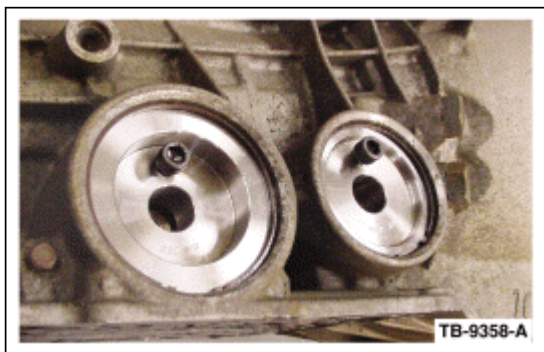

Figure 2 - Article 09-12-12
1. Install the drill jig into the case by setting the jig into the case servo bore. Retain the jig in the case with the servo's snap-ring. (Figure 2)